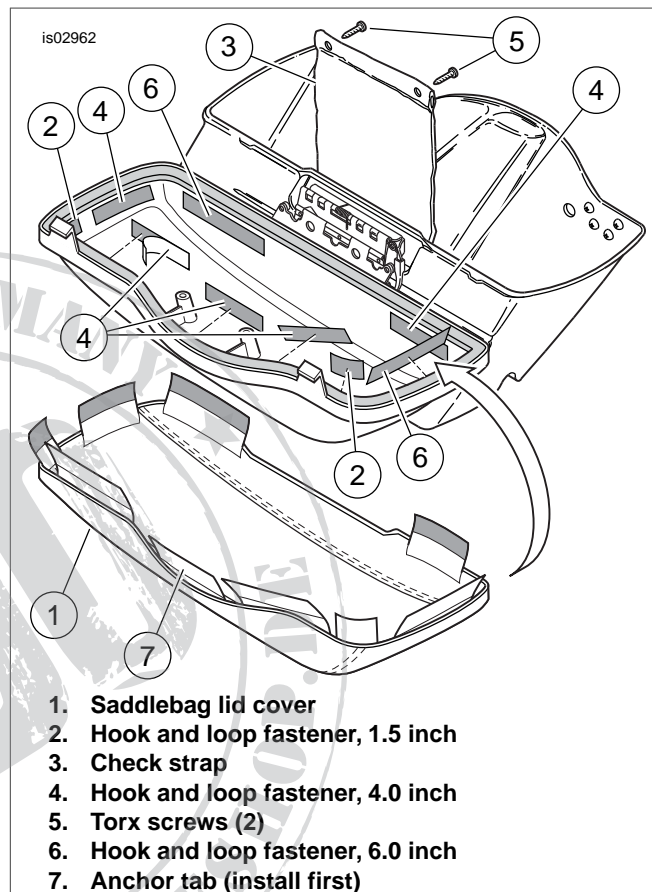

Figure 1. Saddlebag Lid Cover Installation
1. See Figure 1. Open the saddlebag lid. Remove the two T-20 TORX® screws (5) attaching the check strap (3) to the lid.